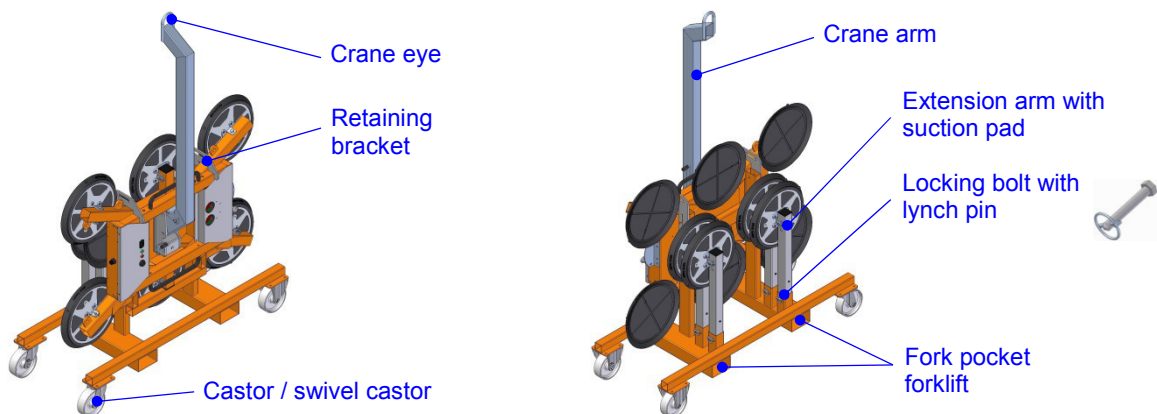

Fig. 4: Transport rack
The transport rack shown in figure 4 is optionally available. It allows:
- ⇒ Make sure that the OKTOPUS® is fixed in the transport rack with the two retaining brackets (see fig. 4) and that both swivel castors are locked.
- ⇒ Position the crane arm as shown in figure 4.
- ⇒ Place the OKTOPUS®, as shown in figure 4, in the transport rack and secure it with both retaining brackets.
- ⇒ Place the extension arms as shown in figure 4 and fix them with the locking bolts and lynch pins provided in the delivery.
Moving the transport rack with the stowed OKTOPUS® is possible with the swivel castors as well as with a forklift. The suspension points intended for the forklift (fork pockets forklift) are shown in figure 4.
Exclusively use the suspension points shown in figure 4 for lifting the transport rack with a forklift. Otherwise the load could suddenly slide or turn over! Crush hazard.